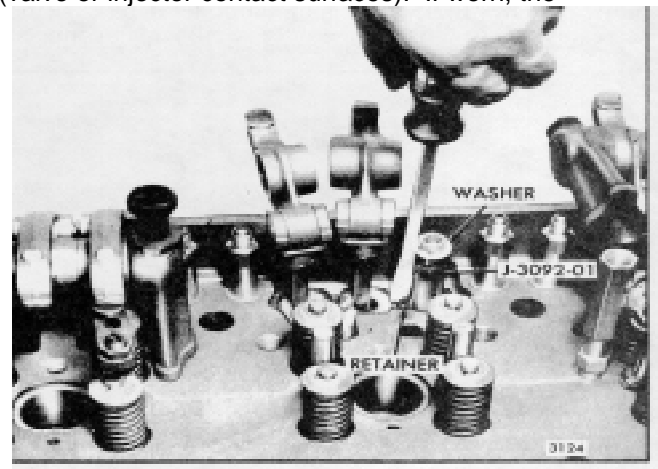

Fig. 3 - Removing Push Rod from Upper Side of Cylinder Head
5. Remove the spring seat retainer from the groove in the cylinder head (Fig. 3).